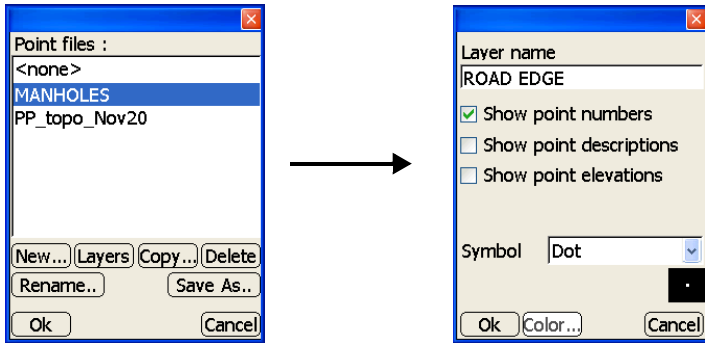

Figure 2-41. Apply Layer Parameters
3. Press **Ok** to return to the *Point files* dialog box, select the newly created Point File (Figure 2-41 on page 2-27).
4. To add a new layer to the Point file, press **Layers**. Then press **New** to add a layer, or **Edit** to change the parameters for the selected layer (Figure 2-41 on page 2-27).
5. On the *layer parameters* dialog box, enter the new layer's parameters and press **Ok** (Figure 2-41 on page 2-27).